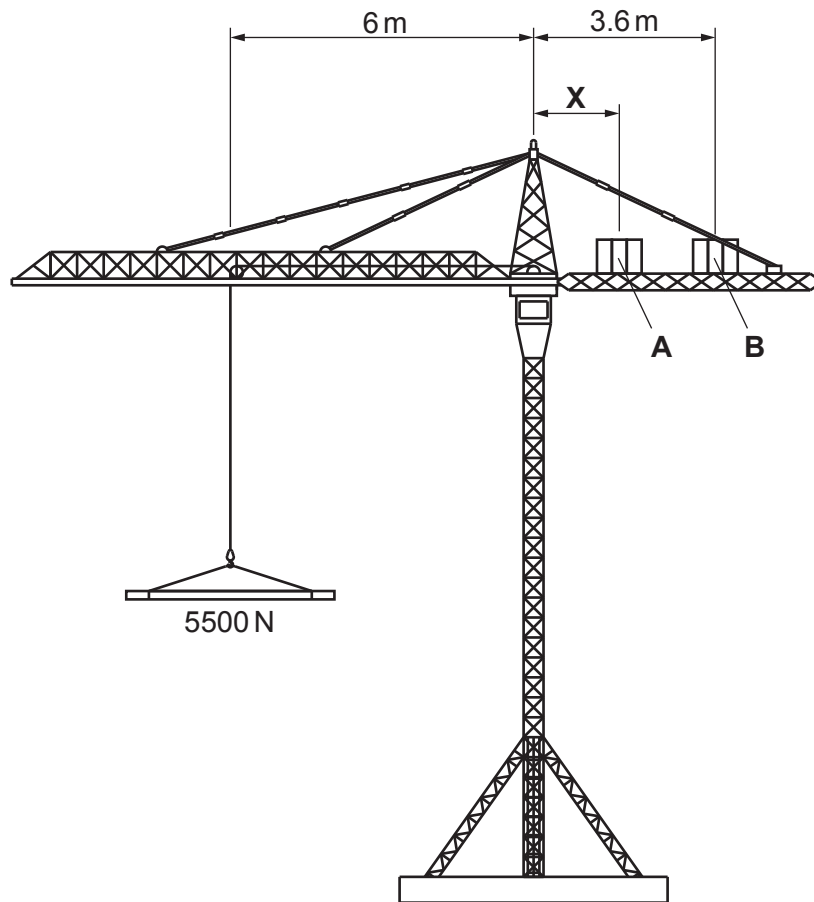

Fig. 9.3
- (c) Fig. 9.3 shows details of a tower crane in equilibrium, which is carrying a load of 5500 N. Two counterweights **A** and **B** each producing a force of 6200 N are used to balance the load.